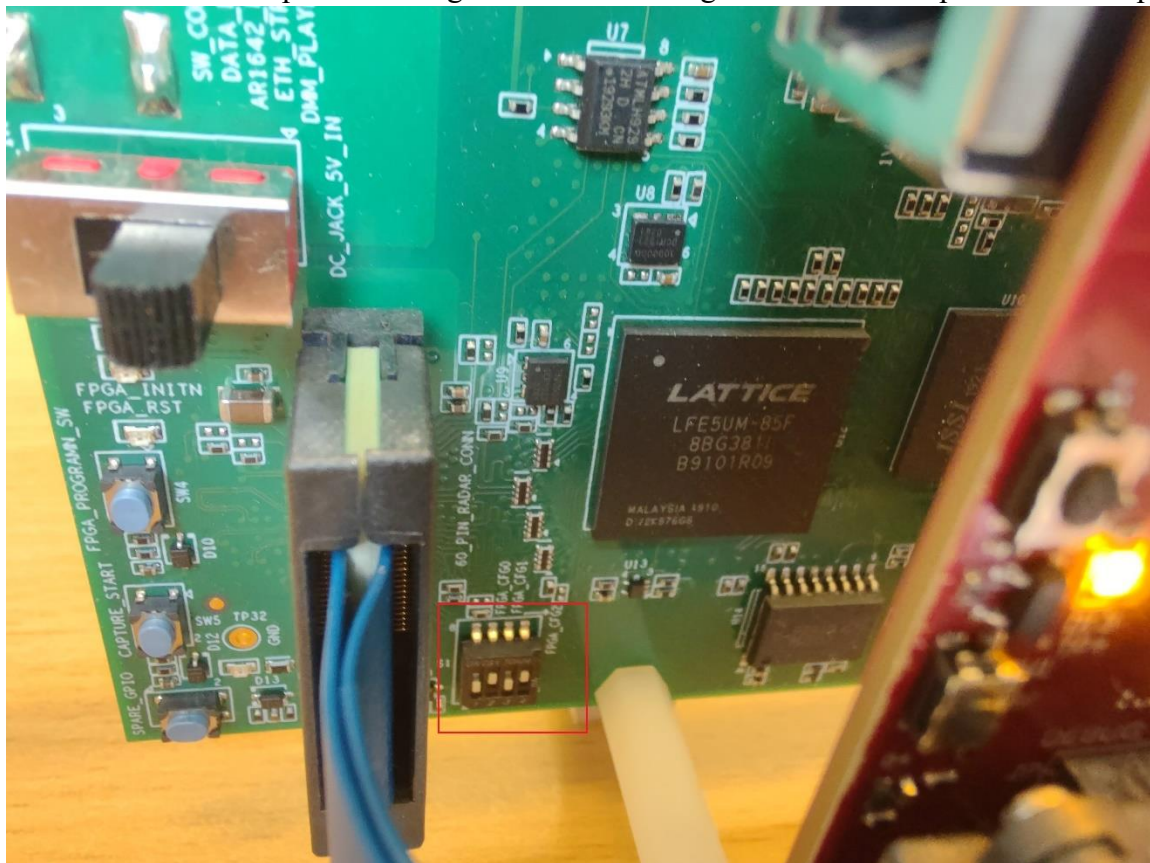

Figure 6: Switch S1 on DCA1000
- b. Set of switches S1 to put like in Fig. 6 : From left to right : 1. Down 2. Up 3. Down 4. Up